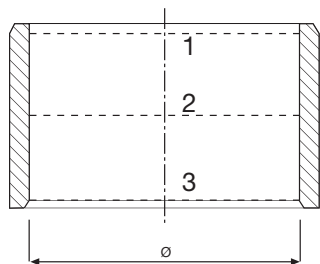

Figure 1: The position of the measurement planes (x=.02 inches)
- With the 3 point probe, the inner diameter of the bearing after pressfit must lie within the prescribed tolerance on the measurement plane, See Figure 1.